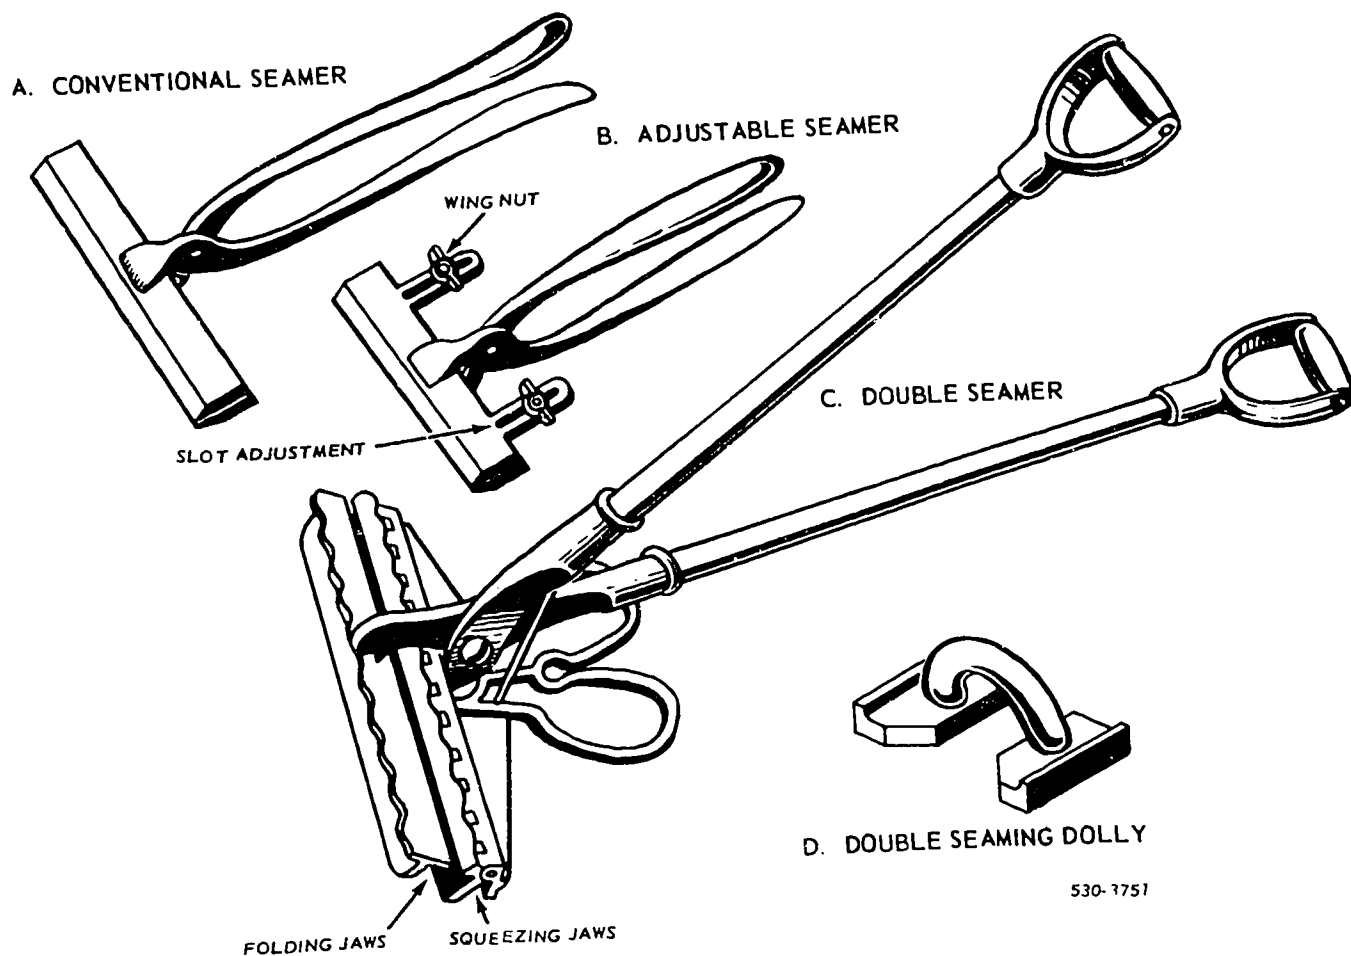

Figure 3-8. Roofing seamers and dolly.
**Roofing seamers.** Roofing seamers look somewhat like the hand seamer discussed earlier in this course. View A in figure 3-8 shows a conventional seamer, which is used to turn edges on metal for making roofing seams. It is available in different sizes, turning seams from ½ inch to 2 inches wide. Conventional seamers are not adjustable and the correct size seamer is required for making seams. The adjustable seamer, shown in view B of figure 3-8, can be used to turn the edges for seams ¾ inch to 3 inches wide. The adjustment is made by loosening the wing nuts on each side of the blade.
The double seamer, shown in view C of figure 3-8, is used to make double seams from standing seams (see fig. 3-3). The bends are made with the folding jaws, and the edges are flattened with the squeezing jaws. These double seamers are available in two sizes. The common gage size is used to make  $\frac{3}{4}$ -inch standing seams. The double seamer folds the metal  $\frac{3}{4}$  inch (or 1 inch) above the  $90^\circ$  flanges. The flanges, as shown in steps C and D, show that this bend is different from a standard standing seam because of the length of the material being bent.
The hand double seaming dolly, shown in view D of figure 3-8, acts as a backer when you're making a double seam on a standing seam. Place the seamer against the opposite side of the standing seam, and use a mallet to turn the edge. The double seamer in view C has a definite advantage over the one in view D because the seaming process can be done much faster with the dual-purpose tool.